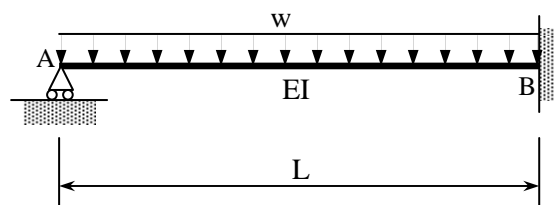

Figure 2(a)
- b) Figure 2(b) shows a three-member truss subjected to a vertical load of 75kN at D. All supports A, B and C are of pin type. It is later found that due to some construction errors, the horizontal movement of support B cannot be effectively restrained. Compute the change in the magnitude of force in member BD due to the ineffectiveness of horizontal restraint at support B. Comment on the change in magnitude which occurs.